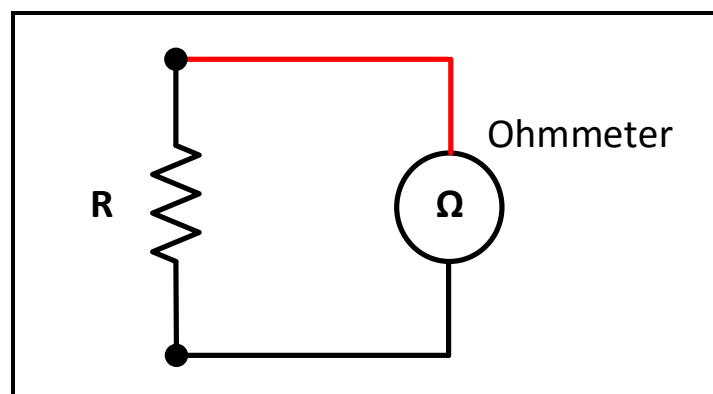

Figure 1.5: Multimeter connection to measure resistance.
- You must connect the Ohmmeter cables **in parallel** with the element in the circuit for which you want to measure the resistance, as shown in figure 1.5.